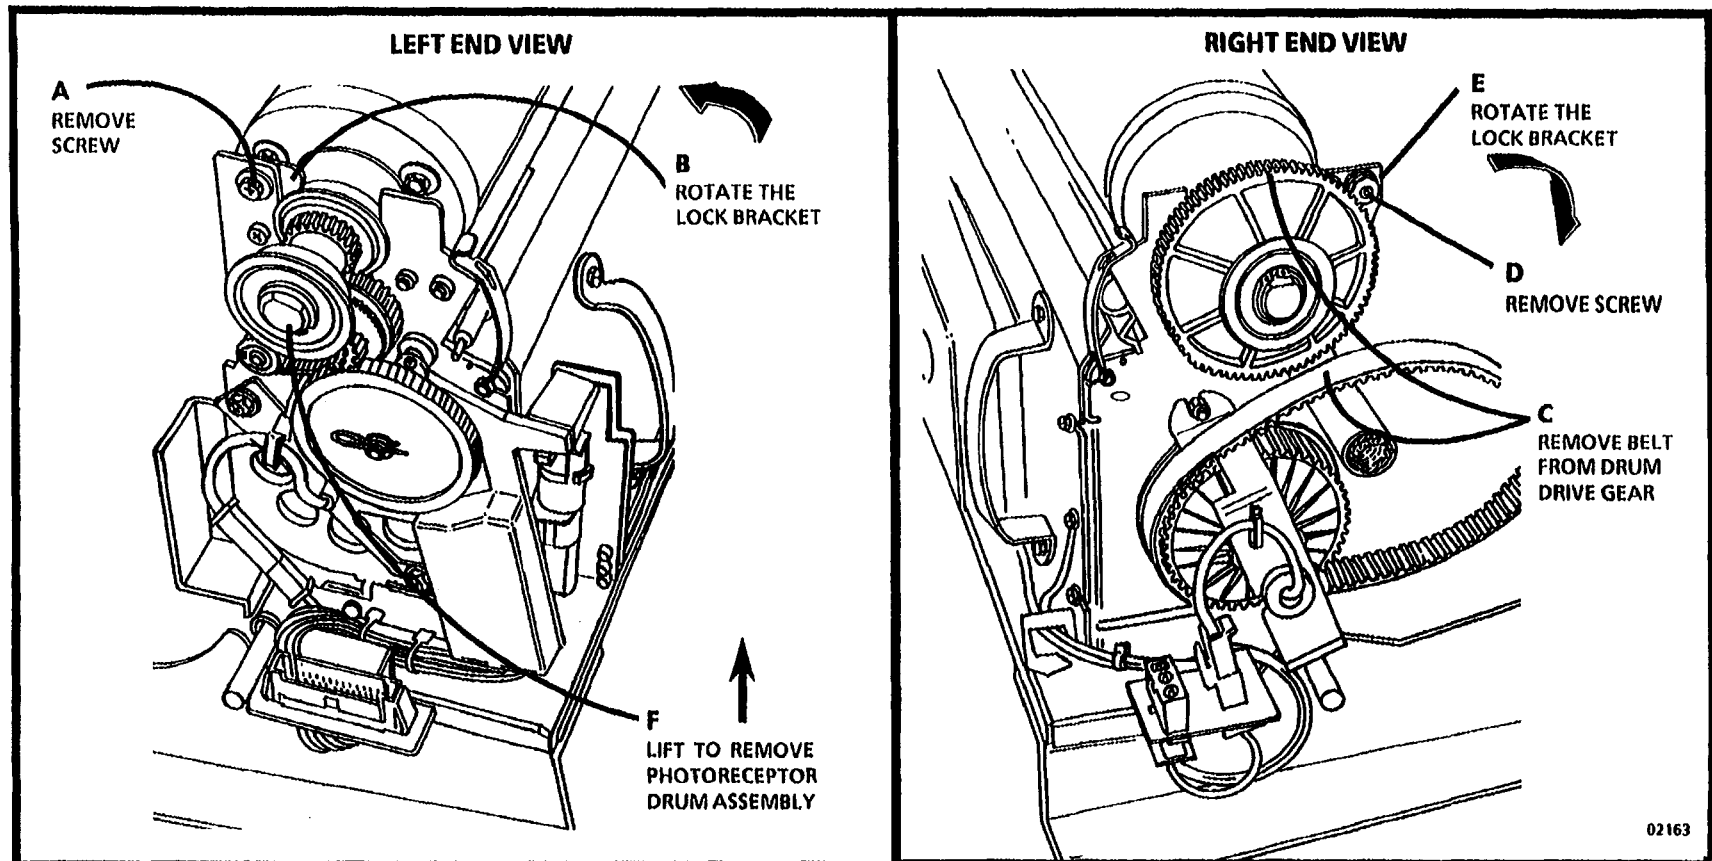

Figure 1. Remove the Photoreceptor Drum Assembly
4. (Figure 1): Remove the Photoreceptor Drum Assembly.